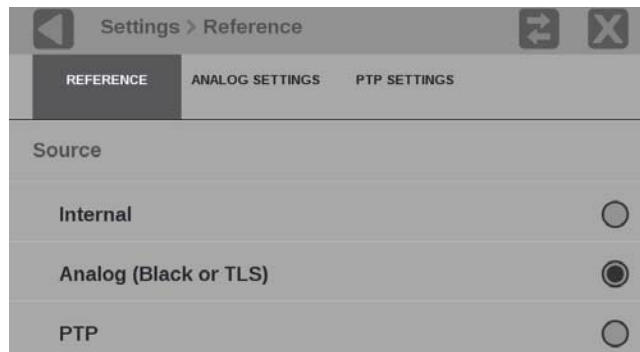

Figure 66: Input External Reference options
2. Open the **Reference** menu and select the **External Reference** submenu shown in Figure 66.